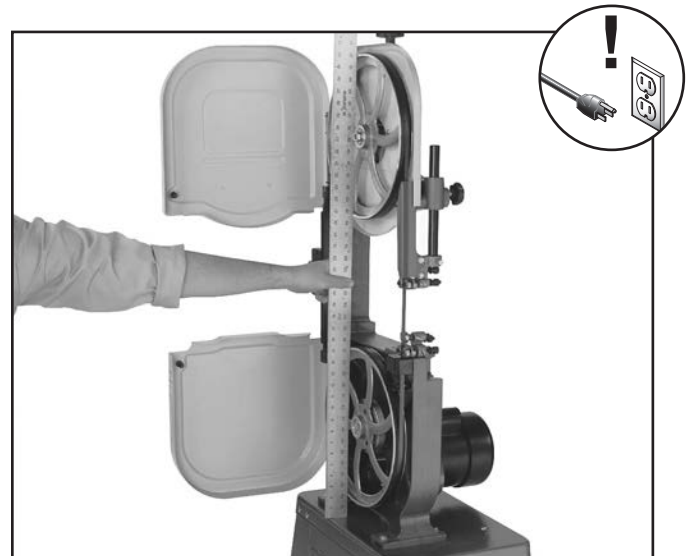

Figure 47. Checking wheel alignment with a straightedge.
2. With the blade on and properly tensioned, hold a straightedge close to the center of both wheels. Make sure the straightedge fully extends across the wheels as shown in **Figure 47**.